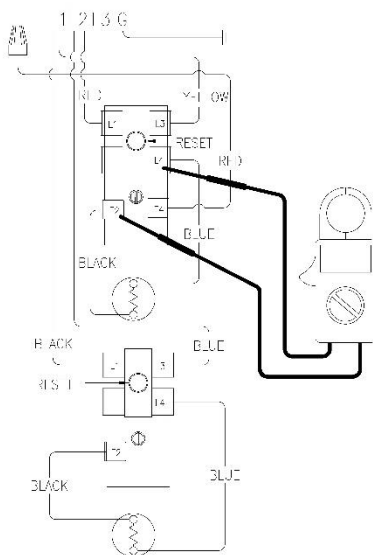

Figure 24
5. Check across terminals L4 and T2 of upper thermostat (see Figure 24).